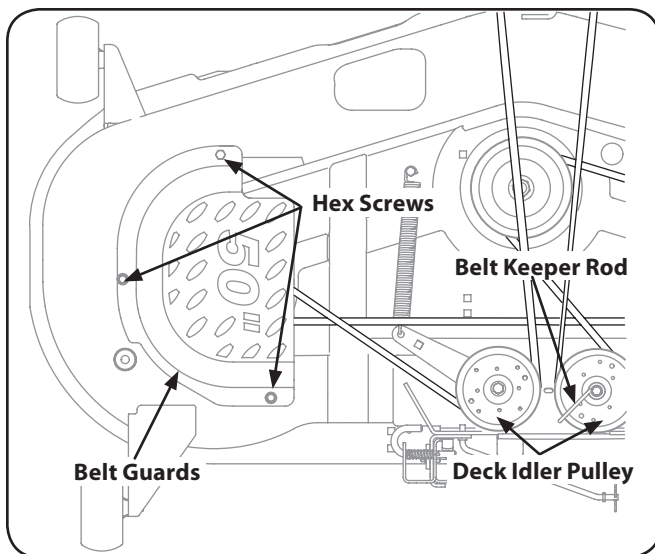

Figure 7-9
2. Remove the belt guards by removing the hex screws that fasten them to the deck. See Figure 7-9.